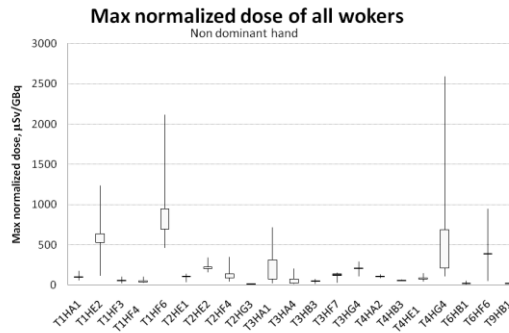

Figure 2: Example of box plot of all workers, hands independents. Procedure: Tc99m administration.
- ❖ First: one box plot for dominant hand and one for non dominant hand. For each technician consider the mean of the maximum dose found for the different workers. See example in Figure 2.